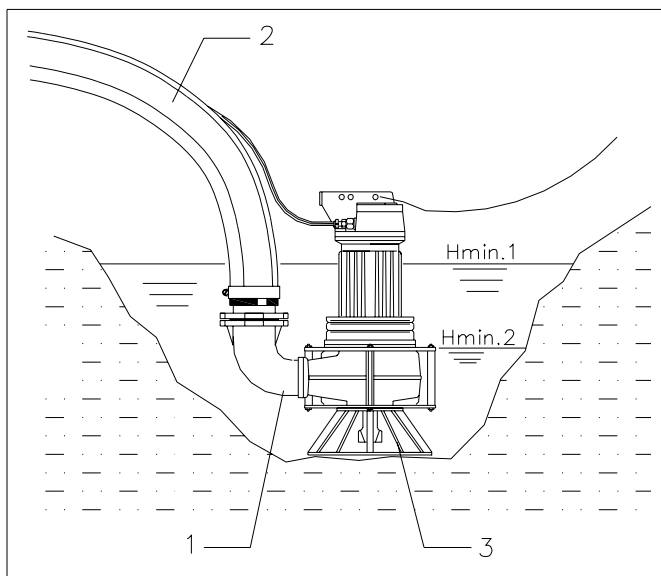

Fig. 6.9
- Check that the motor is adequately cooled. The motor housing should be at least 2/3 submerged for continuous operation at full load (see Hmin.1 Fig. 6.9).
For interrupted level controlled operation, less cooling is required. We recommend not to run the pump with the water level below the top of the volute in order to avoid air being drawn in (see Hmin.2 Fig. 6.9). Air in the discharge pipes might impair performance.